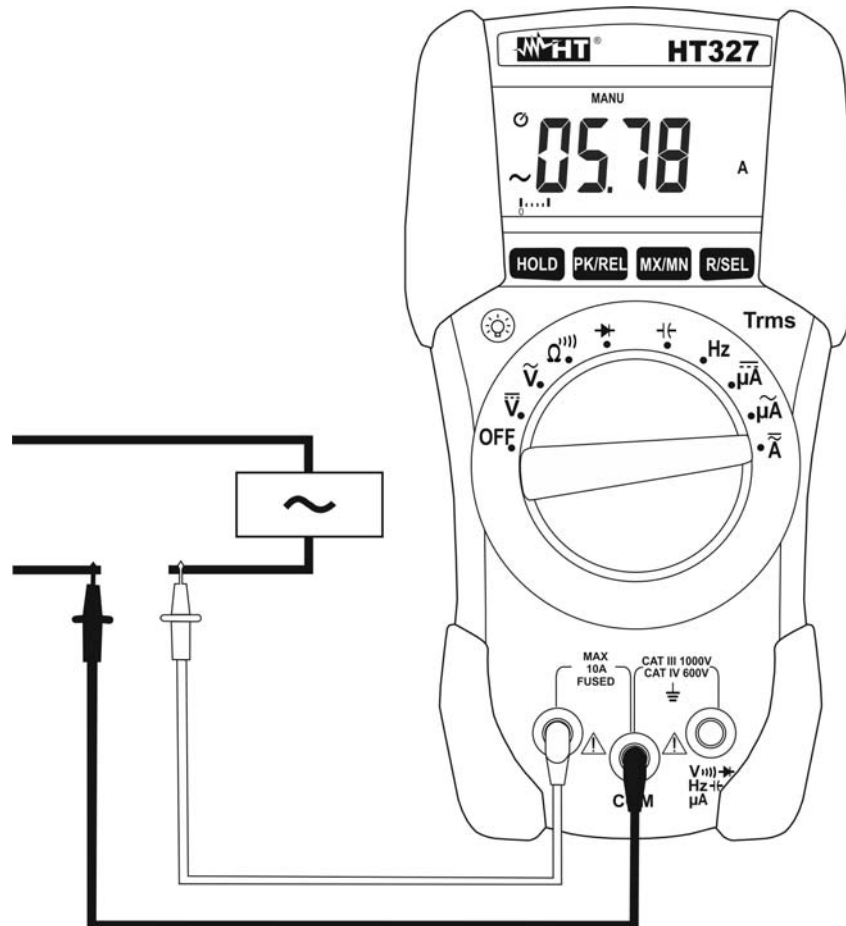

Fig. 5: Using the instrument for AC Current measurement
4. Connect the red and the black plugs in series with the circuit whose current is to be measured (see Fig. 5)